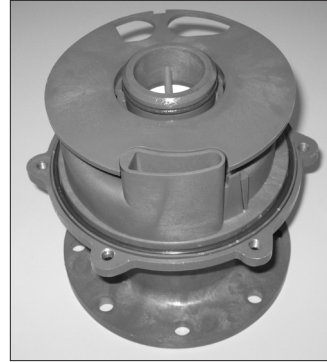

Figure 38
9. Install the separator plate (item 6) by lining up the bottom opening of the inner volute with the opening in the plate. Line up the slots in the separator plate with the notches in the inner volute. See figure 38.